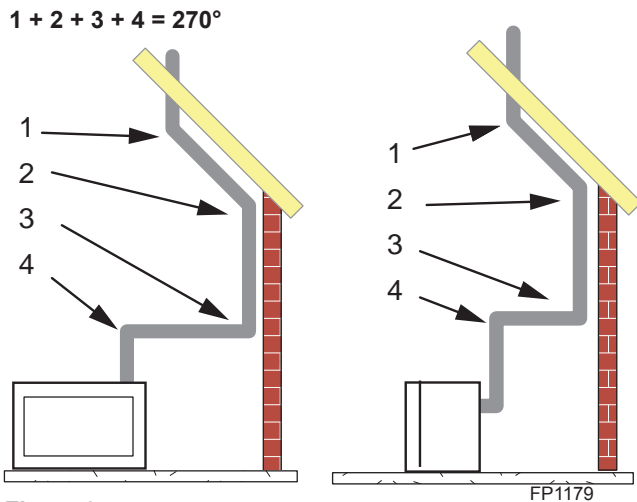

Figure 35 - Maximum Elbow Usage
- The maximum angular variation allowed in the system is 270°. *Figure 35*